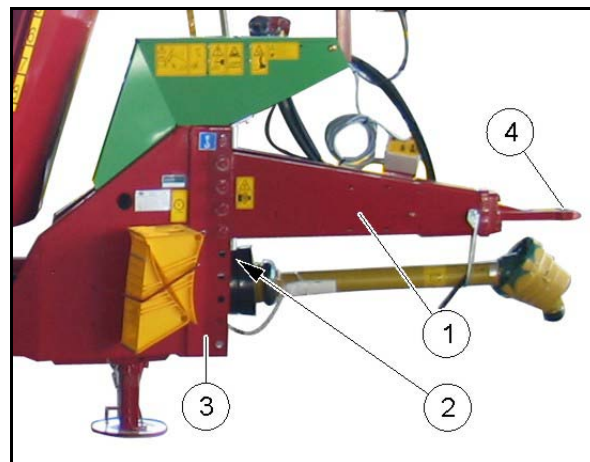

Fig. 52
Within the adjustable range of the positioning holes (2), the drawbar (1) can be screwed on at different levels compared to the chassis (3) (Fig. 52).